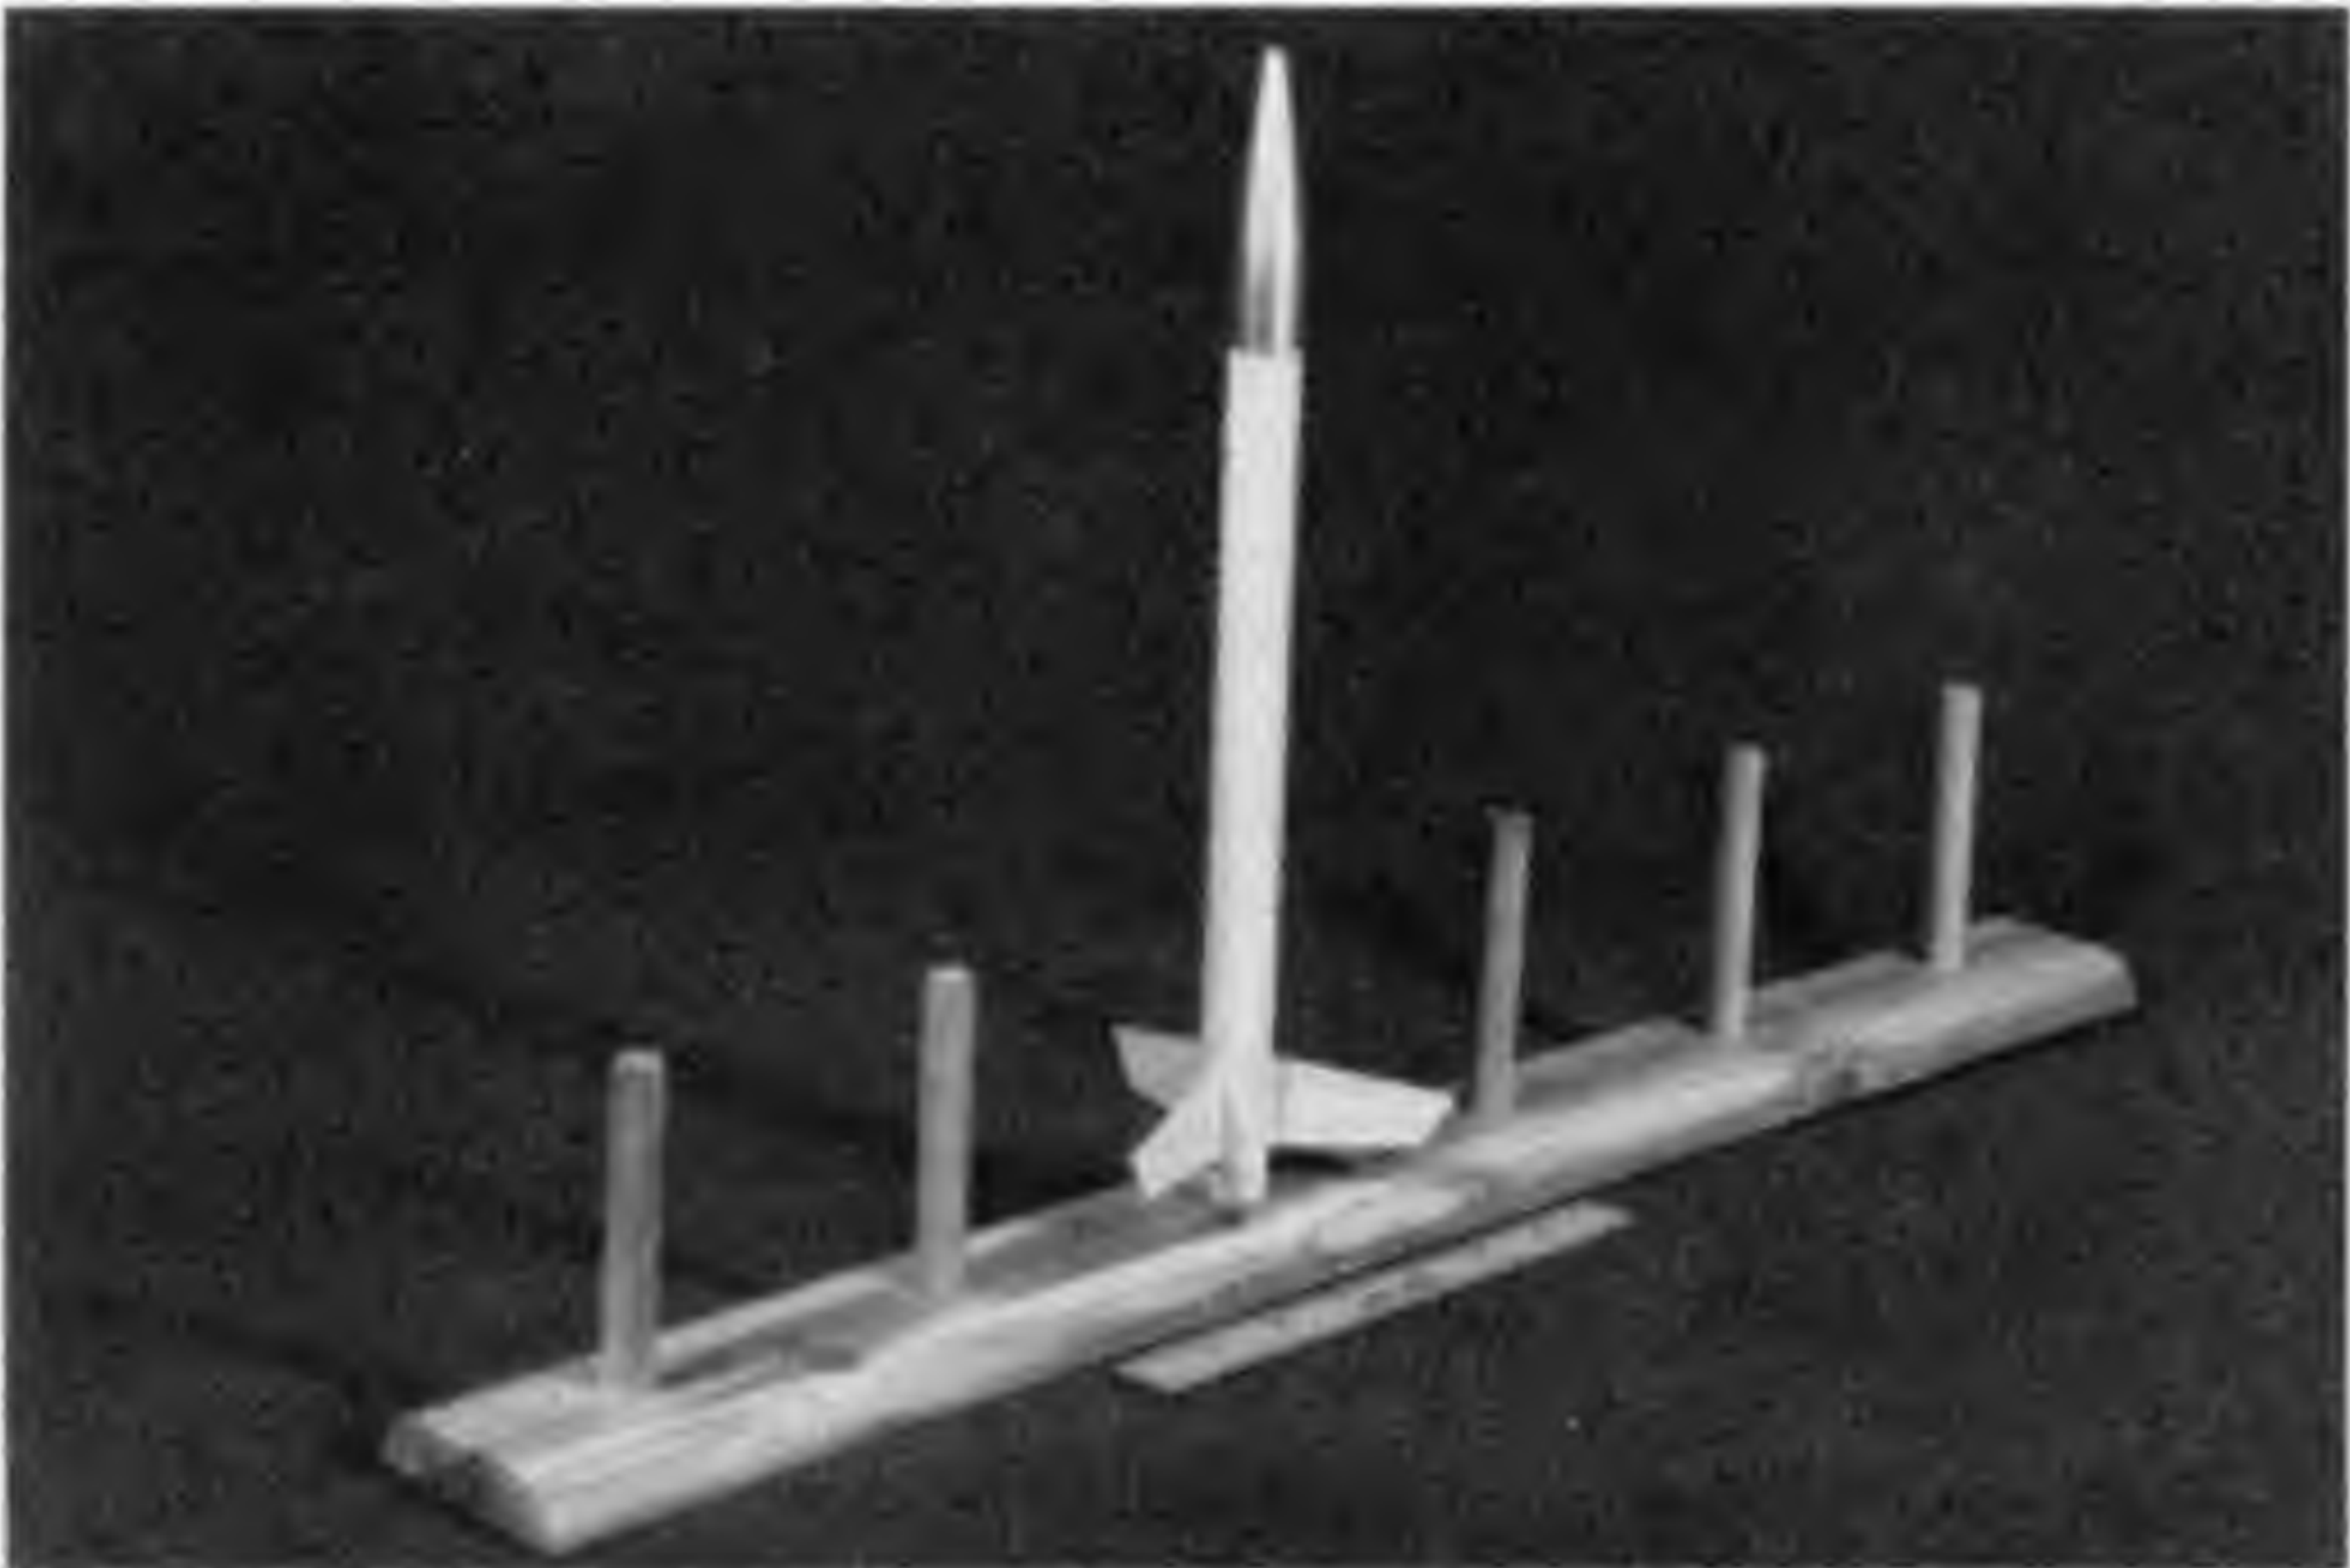

FIGURE 3-6 A spike row is a line of spike dowels on a single board for holding several models vertically.
*Spike row*—The obvious and logical extension of the spike is several spikes fastened to a long board (see Figure 3-6). This is useful not only in the